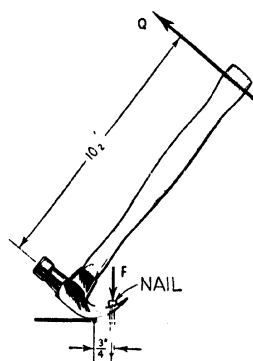

FIG. 384. PULLING FORCE, PROBLEM 4
4. A carpenter had to exert a force of $Q = 50$ lb. on a claw hammer in order to pull a nail when the conditions were as shown in Fig. 384. What force F was necessary to move the nail?